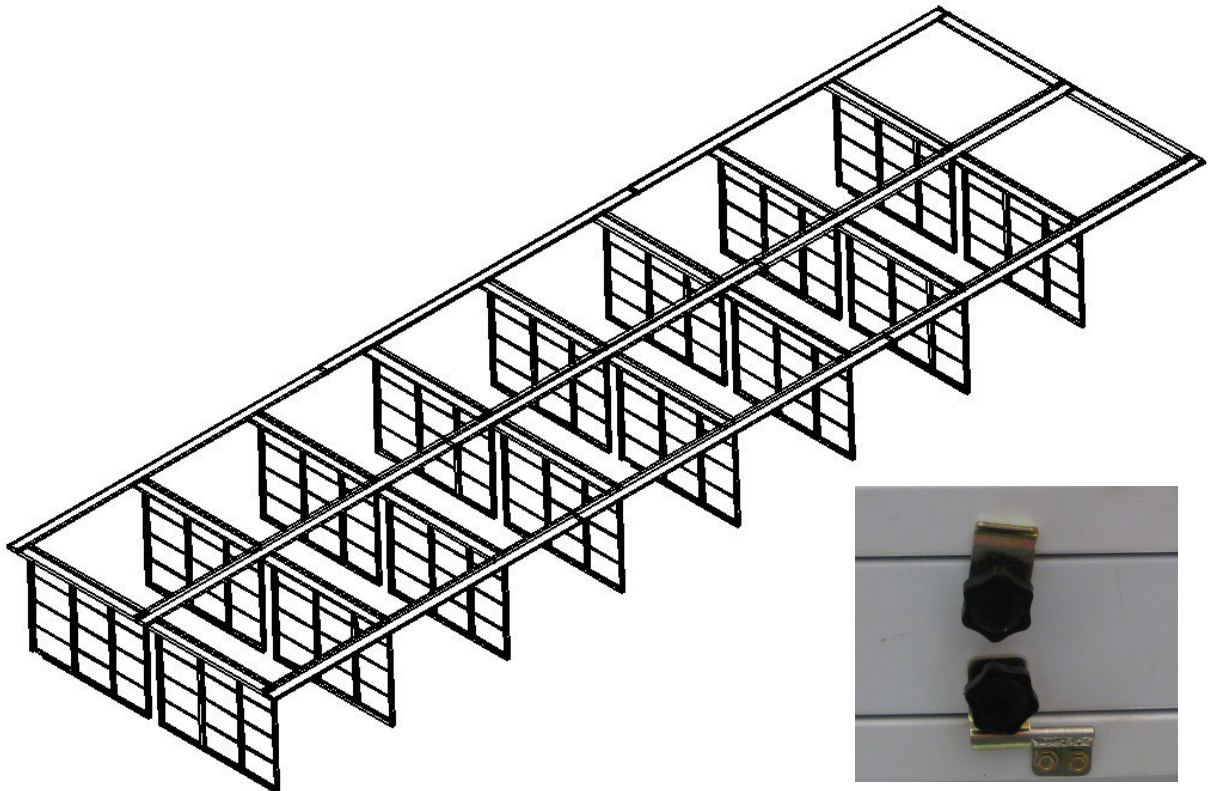

Fig. 2.14
5. Filter frame installation shown in Fig.2.14. Fix the filter on the frame with frame slot first, then installate the filter frame with the hinge.